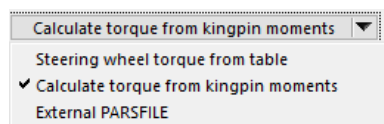

Figure 14. Options for calculating torque at the steering wheel.
- ⑦ Drop-down list for selecting the method used to calculate the torque at the steering wheel (Figure 14).